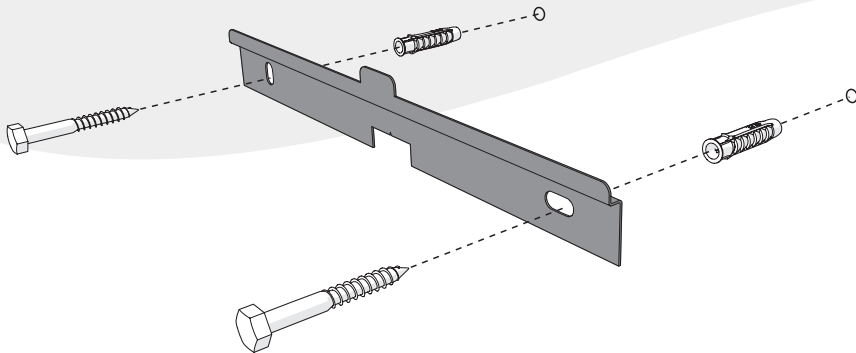

Figure 9 Fixing the wall bracket
5. Fasten the wall bracket with two studs as shown in figure 9. Use a spirit level to make the installation horizontal.